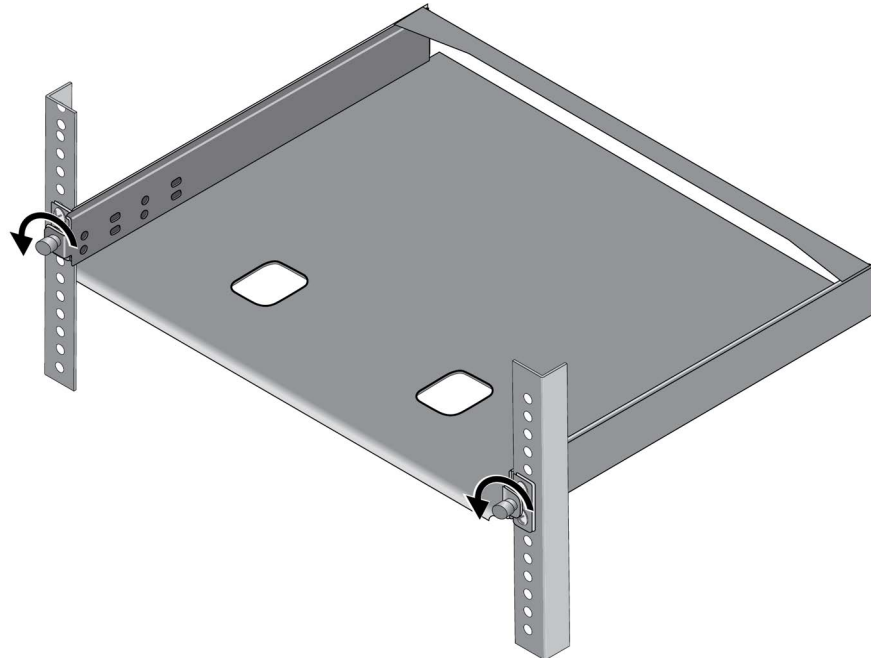

Figure 32. Loosening the Two Thumbscrews on the Front of the RKMT-J15 Bracket
2. Loosen the two thumbscrews on the front of the bracket. Refer to Figure 32.